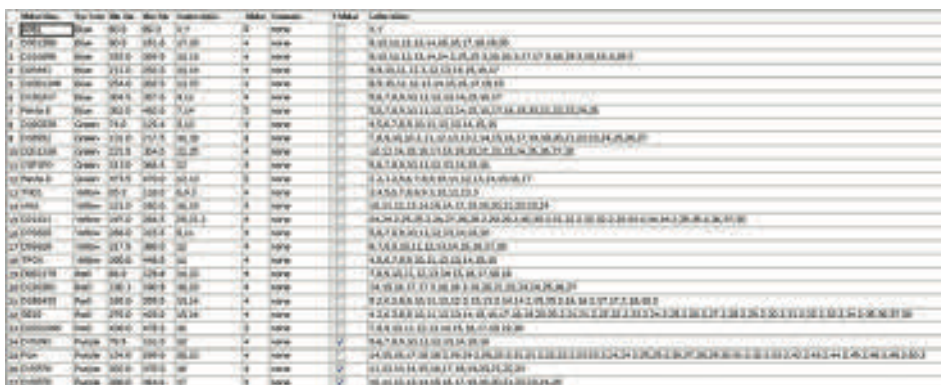

Figure 15. The GeneMapper® ID-X Software, Version 1.4, Y-Marker Check Box.
12. In the Panel Manager, check the boxes to indicate DYS391, DYS576 and DYS570 are Y-markers. See Figure 15. This option is not available for older versions of the GeneMapper® ID-X software.